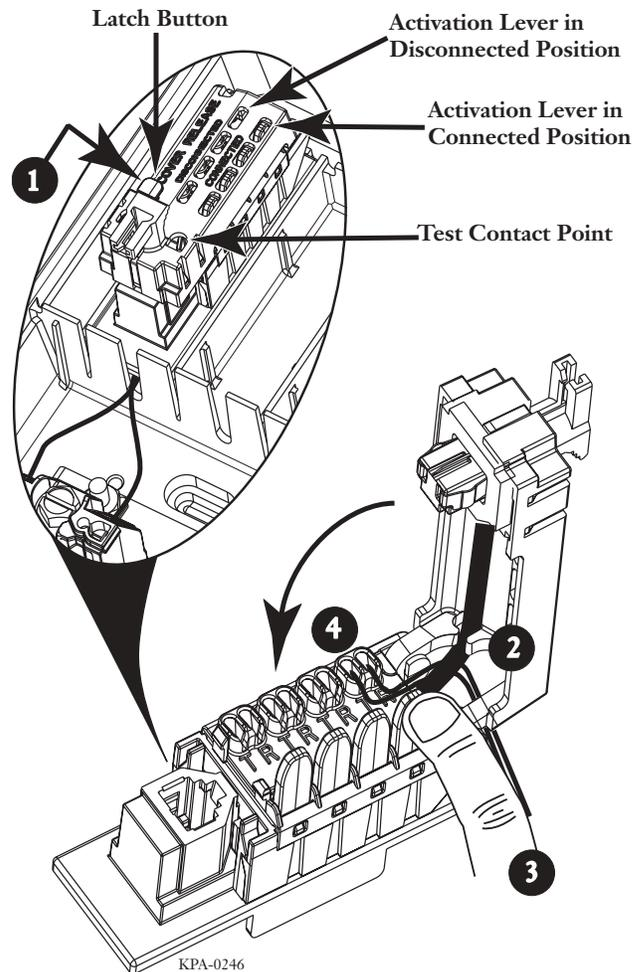

Figure 9
- Step 8** Close the line module cover and check the activation lever position through cover. It should be in the connected position (Figure 9 Inset).
- Step 1** Connect test equipment to the subscriber test contacts (Figure 9 Inset).